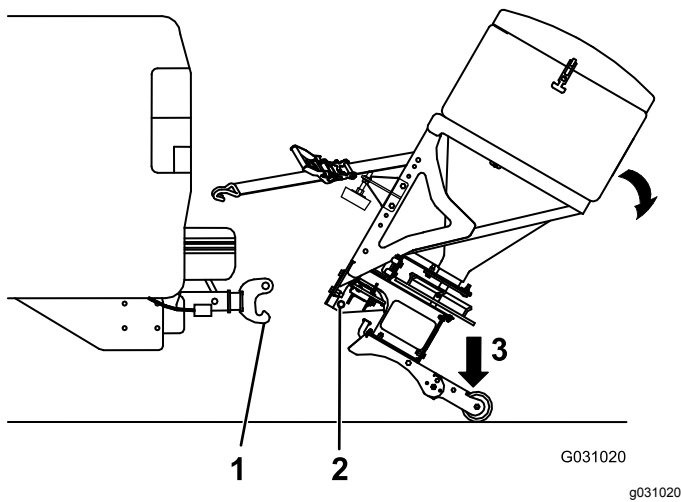

Figure 26
6. Tilt the spreader down to release the top pin of the RT3 attachment (Figure 26).
7. Grip the spreader firmly and step on the leg assembly to rotate it back until the bottom pin of the RT3 attachment clears the hook on the RT3 hitch (Figure 26).